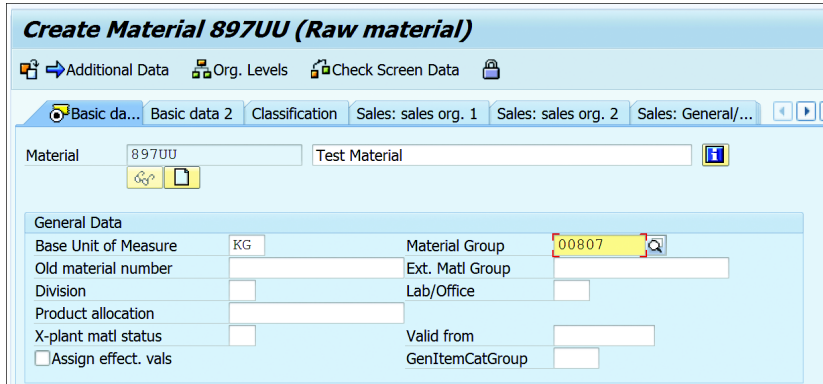

Figure 19.4 Third Screen of Transaction MM01
3. The system will present the selected view, and you can input further details of the material, such as its description, MATERIAL GROUP, BASE UNIT OF MEASURE, and so on, as shown in Figure 19.4.